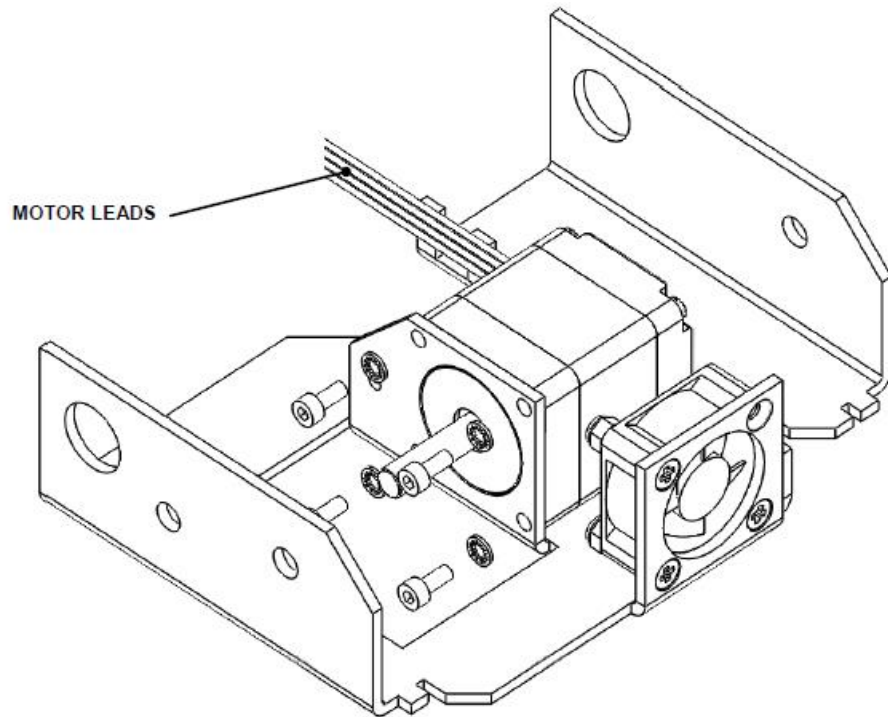

Figure I-10: Removing the Motor
2. Mount the motor as shown in Figure I-10.